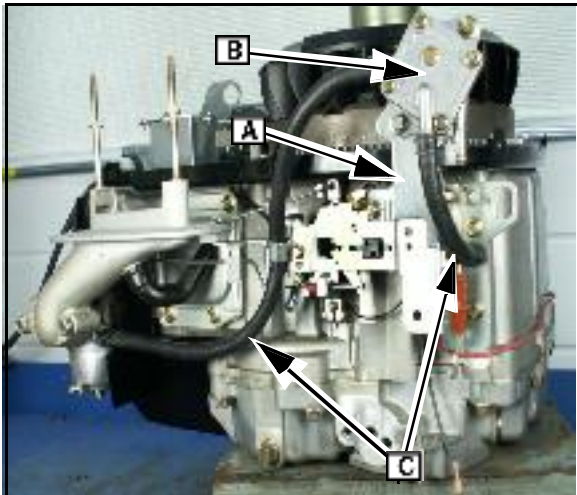

Fig. 47
16. Install fuel pump bracket (A) and fuel pump (B).
17. Connect fuel lines ([C] Fig. 47) to carburetor and cylinder.